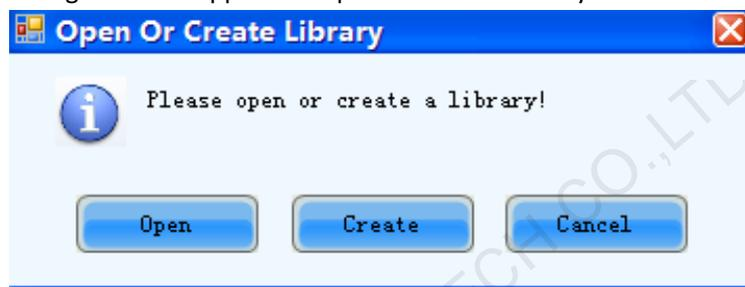

Fig. 7-42 Dialog for opening or creating a library
- 1) Click **Tool -> Cabinet Database** to open the library management page. If it is the first time to open the page, the dialog as shown in Fig. 7-42 will appear for open or create a library: